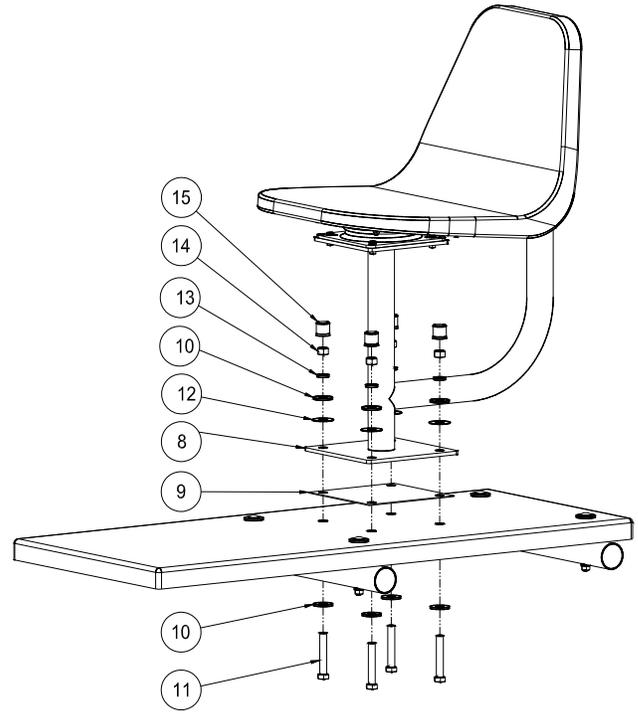

FIGURE 6
6. Place **Gasket (item 9)** onto footboard and place Lifeguard Chair and Swivel assembly onto gasket orienting Umbrella holder towards rear of Lifeguard Chair as shown in **FIGURE 6**.
7. Align holes of gasket and Lifeguard Chair and Swivel assembly. Place four (4) **½" Flat Washers (item 10)** onto four (4) **½" Hex Head Cap Screws (item 11)**. Place both bolt and washer up through Footboard, Gasket and Lifeguard Chair Assembly.
8. Place **½" Plastic Washer (item 12)**, **½" Flat Washer (item 10)**, **½" Lock Washer (item 13)** and **½" Hex nut (item 14)** over bolts and tighten. Place **½" Plastic Nut Cap (item 15)** over all bolt ends above Swivel Stand as shown in **FIGURE 6**. Tighten all fasteners being careful to compress all lock washers and no further. Excessive tightening of fasteners results in damage to tubing and related parts voiding warranty and creating an unsafe structure.